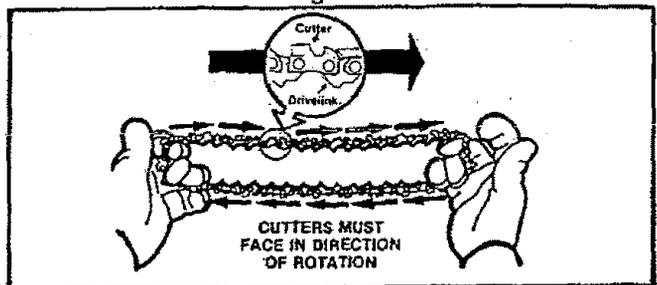

Figure 10
4. Hold chain with cutters facing as shown in Figure 10.